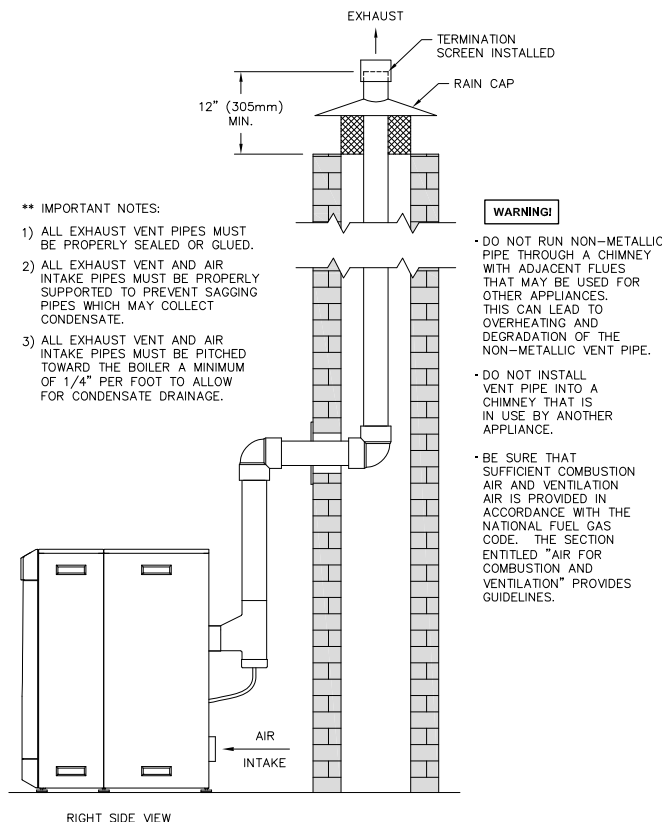

Figure 3.7: Vertical Exhaust Routed Through an Unused Chimney with Indoor Air
- b. Figure 3.7 shows vertical exhaust venting through an unused chimney. In this case, combustion air is supplied from inside the building. Section 1.D provides guidelines for determining adequate inside air.